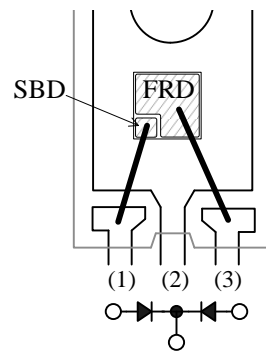

Figure 6-3 Internal structure of FMKS series
- The internal structure is formed a Schottky barrier diode for temperature detection, SBD, and a fast recovery diode, FRD, on the same die as shown in Figure 6-3. Thus, the temperature is about the same between SBD and FRD.